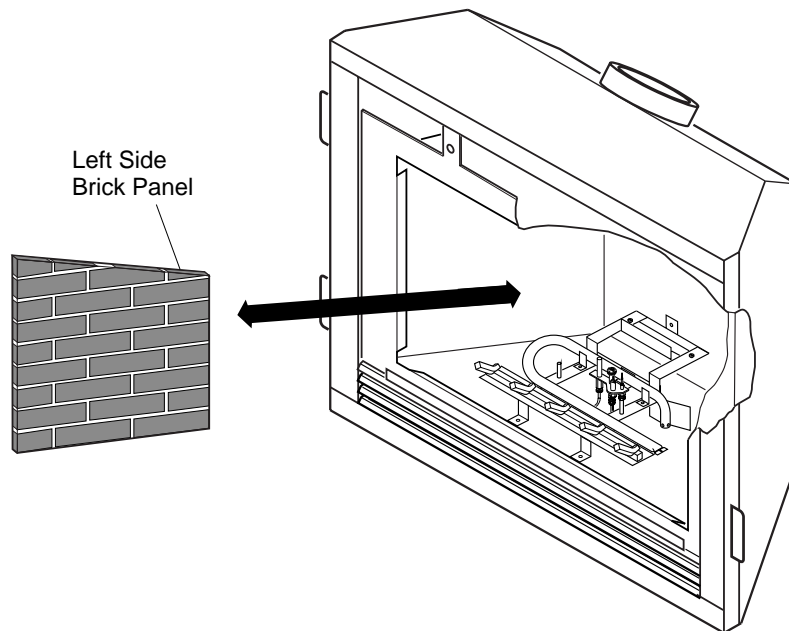

Figure 48 - Installing Left Side Brick Panel
3. Install left side brick panel first by sliding it between the grate and the side of the firebox (see Figure 48).